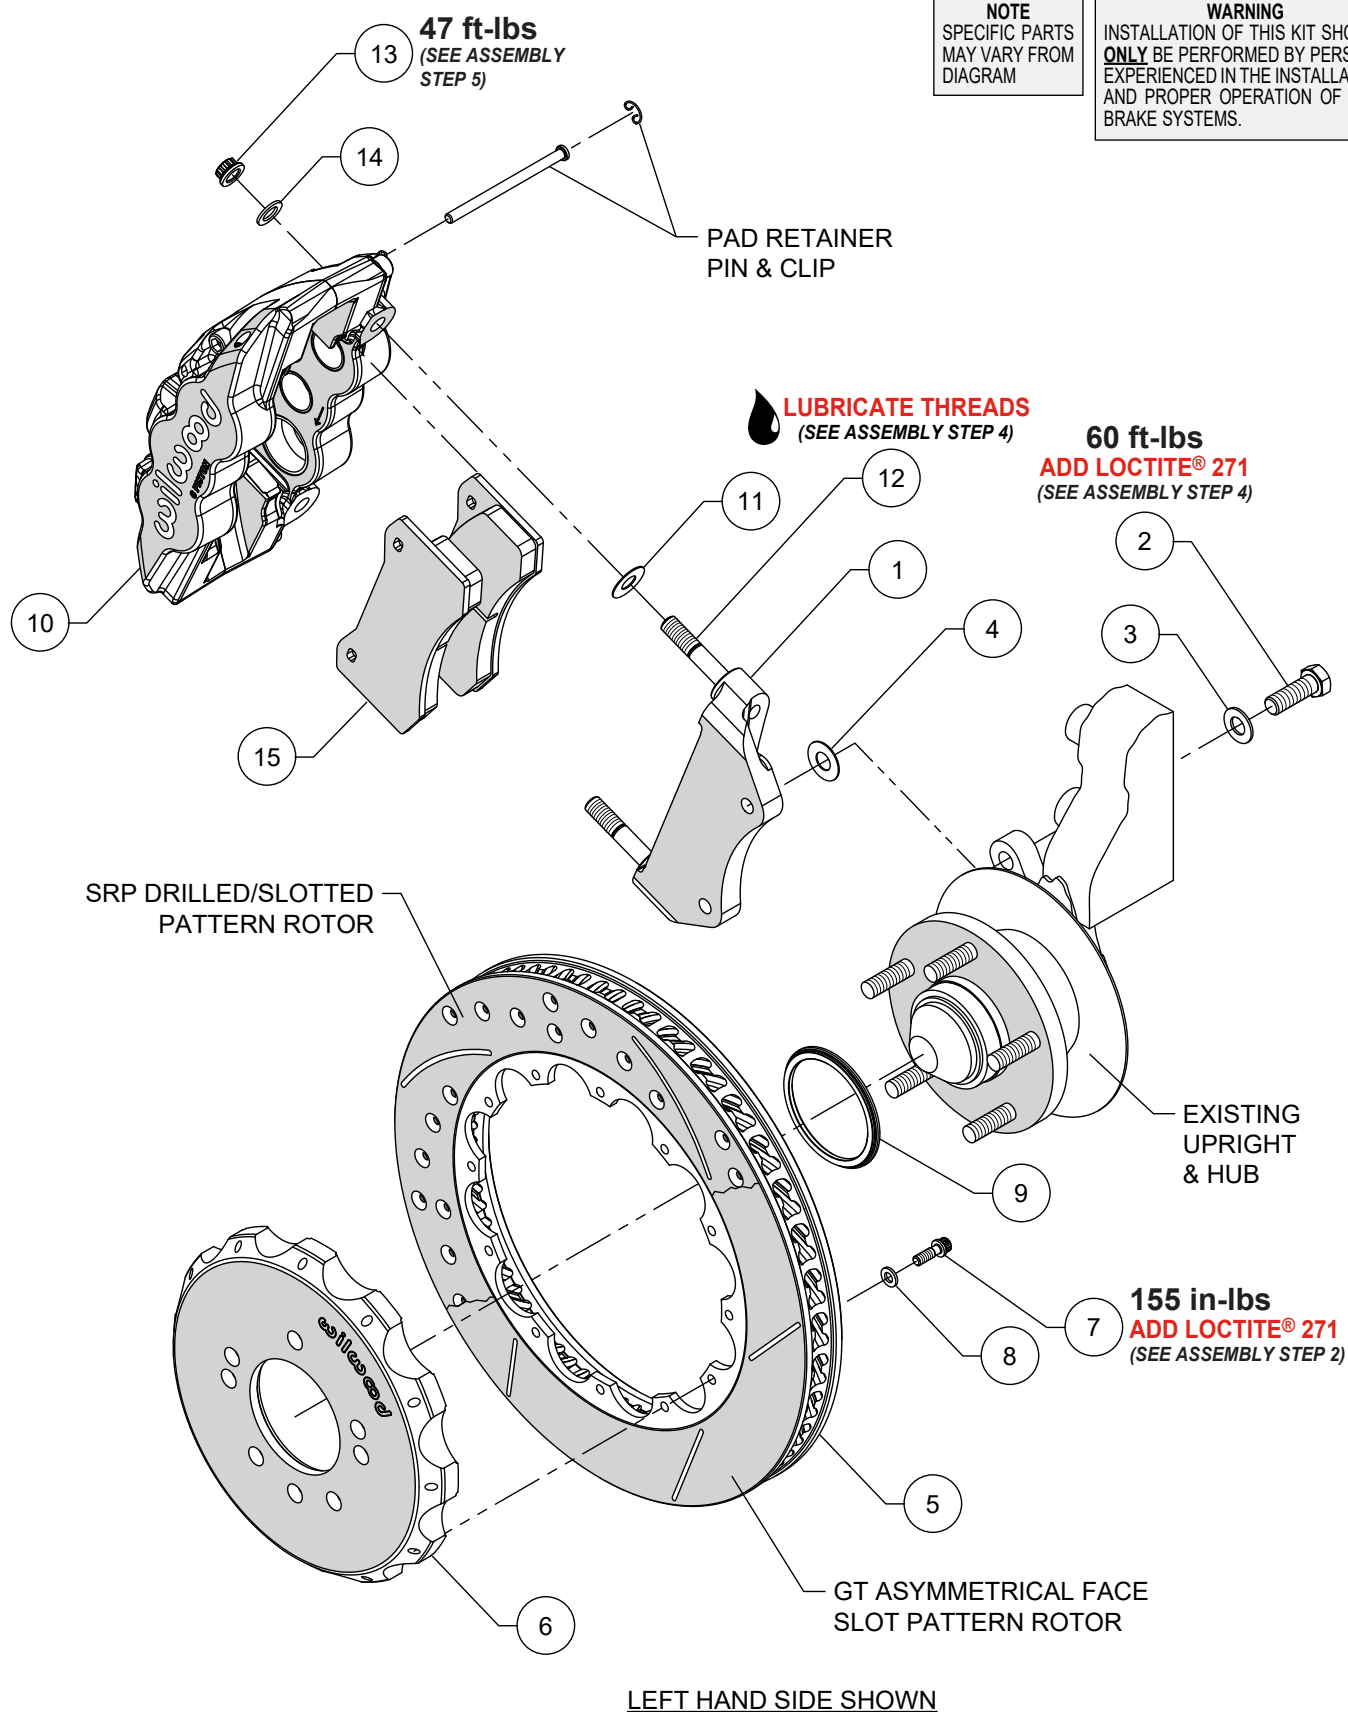
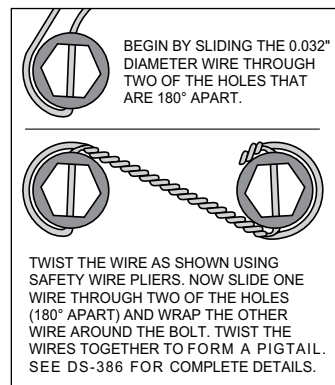

Figure 1. Typical Installation Configuration
Figure 2
NOTE: Numbers in parenthesis refer to the parts list and Figure 1 on the preceding pages.
STEP 1 The caliper mount bracket (1) should initially be installed with clean, dry threads on the mounting bolts. Orient the bracket as shown in Figure 1 and Photo 1, and install using mounting bolts (2) and washers (3). **NOTE:** There are two different length bolts included in this kit. See below to determine which bolt to use.
Initially place one .033" thick shim (4) on each bolt (2) between the bracket and upright, Figure 1. Temporarily tighten the mounting bolts. **NOTE:** The bracket must fit squarely against the mount bosses on the upright. Inspect for interference from casting irregularities, machining ridges, burrs, etc. Later, after the caliper alignment has been checked, the mount bolts will be secured using red Loctite® 271.
STEP 2 Orient the rotor (5) and the hat (6) as shown in Figure 1 and Photo 2. Attach rotor to hat using bolts (7) and washers (8). Apply red Loctite® 271 to the bolt threads and torque to value shown in Figure 1 using a criss-cross pattern. For an added measure of security, the bolts may be safety wired using standard 0.032 inch diameter stainless steel safety wire as shown in Figure 2. Please refer to Wilwood's data sheet DS-386 (available at www.wilwood.com/Pdf/DataSheets/ds386.pdf) for complete safety wire installation instructions.
STEP 3 Install the rotor registration adapter (9) onto the register of the hub assembly with the smaller O.D. facing outward, Photo 3. **NOTE:** There are two different rotor registration adapters included in this kit. See below to determine which adapter to use.
STEP 4 **NOTE:** This kit contains distinct right and left hand calipers that must be mounted in a specific direction, as described below. Lubricate the caliper mounting studs (12) with lightweight oil. Initially place one .030" thick shim (11) on each stud between the caliper and the bracket, as shown in Figure 1 and Photo 5. Mount the caliper (10) onto the bracket (1) using lock nuts (13) and washers (14), Figure 1. Temporarily tighten the lock nuts. Ensure that the caliper is mounted so the largest pistons are at the rotor exit end of the caliper, in relation to the forward rotation of the rotor. View the rotor through the top opening of the caliper. The rotor should be centered in the caliper, Photo 6. If not, adjust by adding or subtracting shims (4) between the bracket and the spindle. Always use the same amount of shims on each of the two mounting bolts. Once the caliper alignment is correct, remove the bracket mounting bolts (2) one at a time, apply red Loctite® 271 to the threads, and torque to value shown in Figure 1.
STEP 5 Remove the caliper from the bracket, then remove the caliper pad retainer clips and pins. Insert the brake pads (15) into the caliper from the bottom side, with the friction material facing the rotor, as shown in Photo 7. Mount the caliper and check that the top of the brake pad is flush with the outside diameter of the rotor. If not, adjust by adding or subtracting shims (11) between the caliper and the bracket. After the caliper pad height is set, reinstall the pad retaining pins and clips, Photo 8. Torque the caliper lock nuts (13) to value shown in Figure 1.